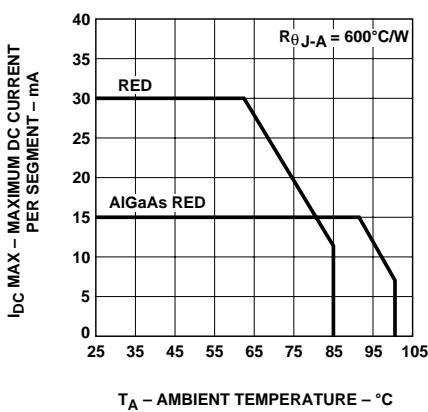

Figure 3. Maximum Allowable DC Current vs. Ambient Temperature.  $T_{JMAX} = 100^\circ\text{C}$  for Red and  $T_{JMAX} = 110^\circ\text{C}$  for AlGaAs Red.
4. Derate maximum DC current for Red above TA = 62°C at 0.79 mA/°C, and AlGaAs Red above TA = 91°C at 0.8 mA/°C. See Figure 3.